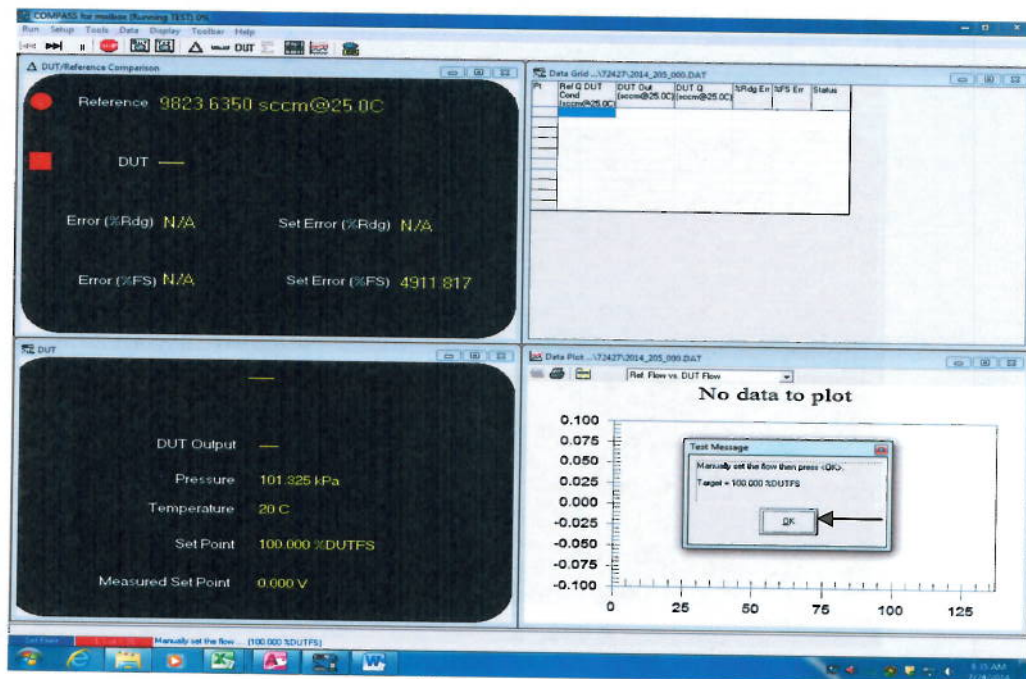

Figure 9
- 12.3.8 Click on the "OK" button. See Figure 9.